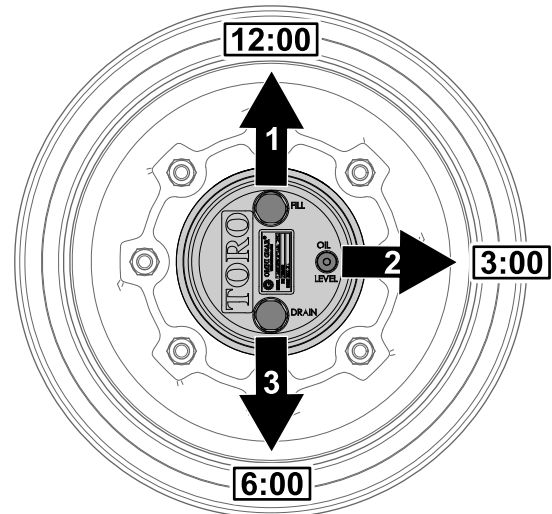

Figure 60
1. Park the machine on level surface, position the wheel so that the fill plug is at the 12 o'clock position, the check plug is at 3 o'clock position, and the drain plug is at the 6 o'clock position (Figure 60).
2. Remove the check plug at the 3 o'clock position (Figure 60).
1. Park the machine on level surface, position the wheel so that the fill plug is at the 12 o'clock position, the check plug is at 3 o'clock position, and the drain plug is at the 6 o'clock position; refer to Figure 60 in Checking the Planetary Gear-Drive Lubricant (page 54).